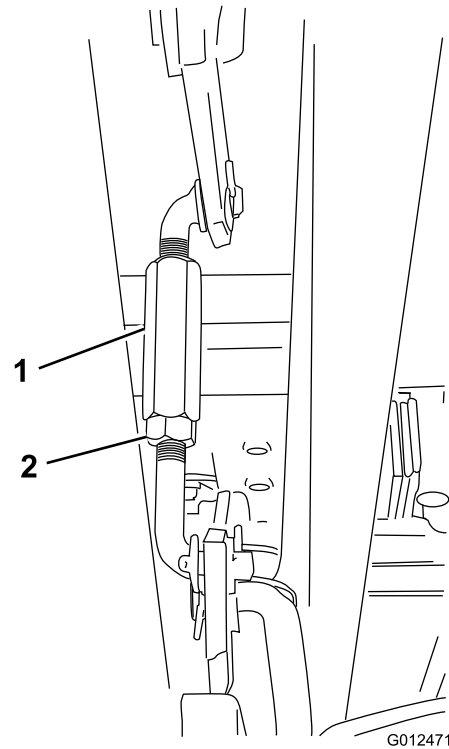

Figure 49
8. Loosen the jam nut on at the end of the turnbuckle (on the right side of the machine; refer to Figure 49), and adjust the turnbuckle until the distance between the front tip of the left blade and the flat surface is 55 mm (2-1/8 inch).